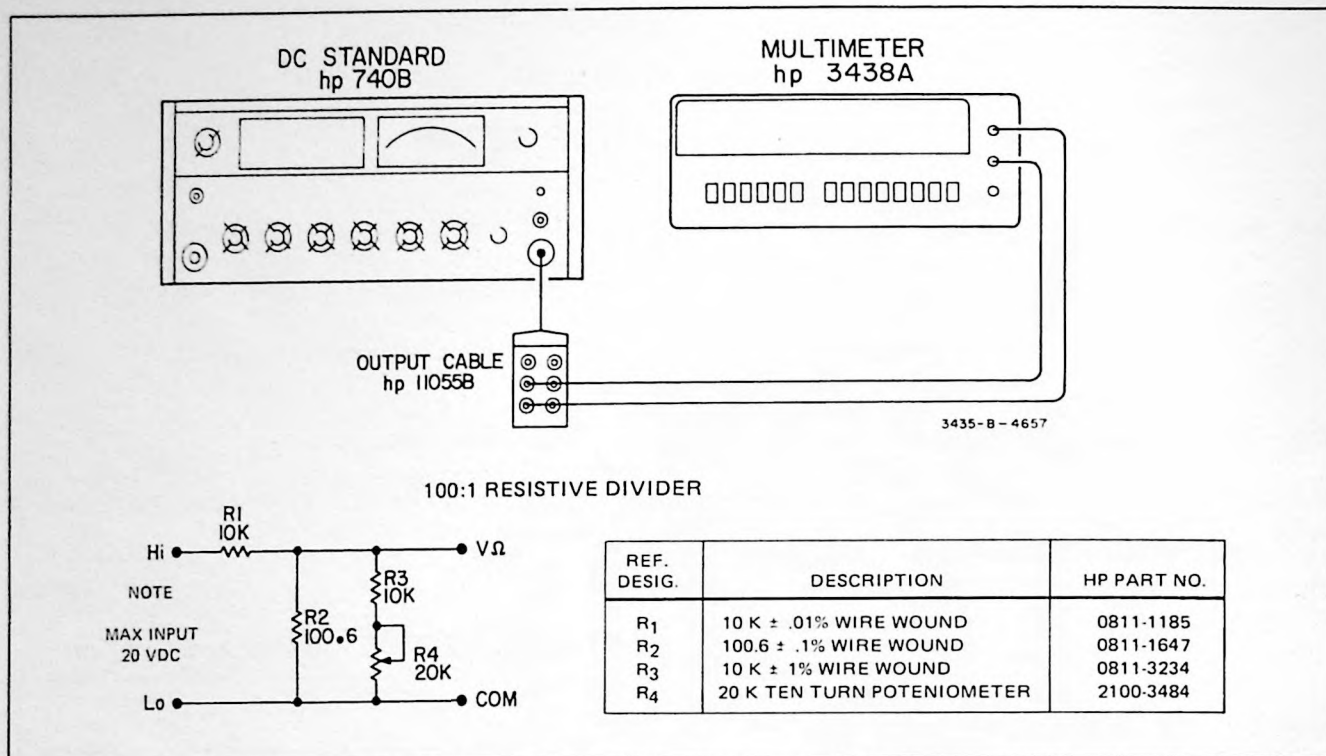

Figure 4-1. DC Voltmeter Accuracy Test.
- c. Connect the DC Standard to the V Ω and COM terminals as shown in Figure 4-1.